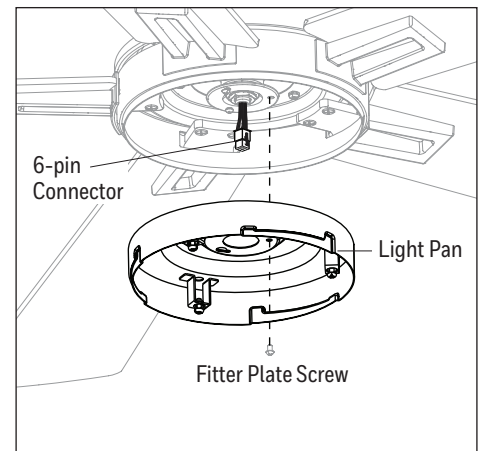

Figure 5.6
6. Remove one of the three fitter plate screws preassembled to the fitter plate and loosen the other two but do not remove. Feed the 6-pin connector through the center hole in the light pan. Align the keyhole slots in the light pan with the loosened screws in the fitter plate. Turn light pan clockwise and replace the previously removed fitter plate screw. Tighten all screws (Figure 5.6).